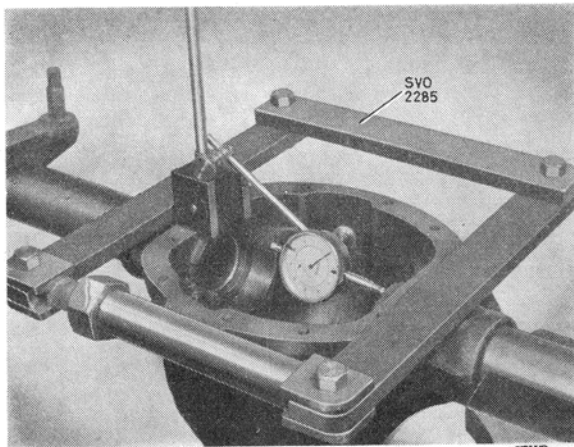

Fig. 39. Tensioning out the rear axle housing.
11. Fit tool SVO 2285 and an indicator dial on the rear axle housing as shown in fig. 39. Tighten the tension nut so that the rear axle housing is tensioned out not more than 0,3 mm. Remove the dial indicator. Lay in the differential and bearings. Then remove tool SVO 2285.